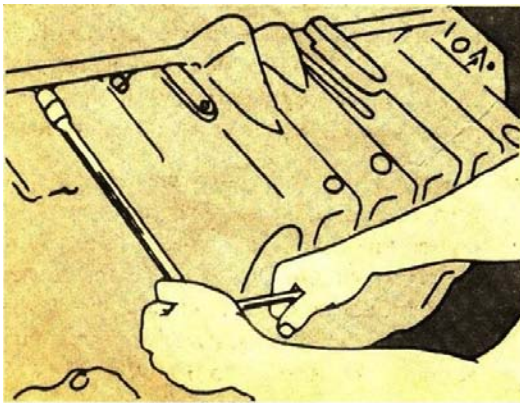

Fig. 14-51, Tighten the oil
3. Install the remaining capscrews. Starting at center and alternating from side to side of the oil pan or adapter, tighten the capscrews evenly to 30 to 35 ft-lbs (41 to 47 Nm) torque Fig. 14-51.